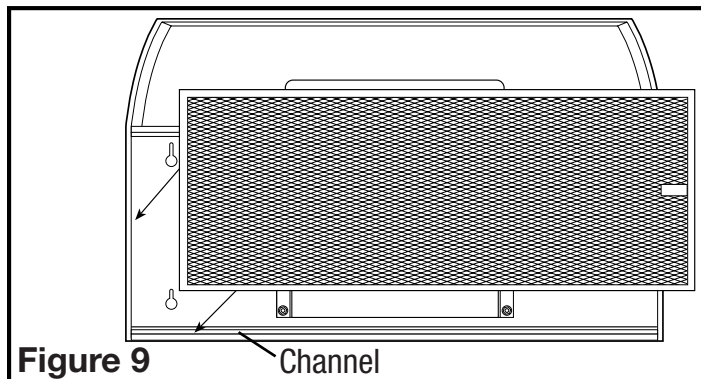

Figure 9
2. Reinstall the filter by fitting into the channel of the hood and pushing upwards until it is secured in place (Figure 9).